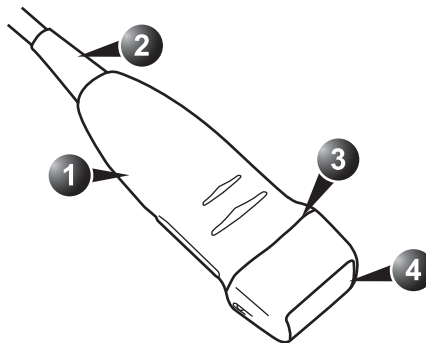

Figure 13-3. Probe parts
1. Inspect the lens, the probe housing and the cable (Figure 13-3) for cracks, cuts, tears, and other signs of physical damage.